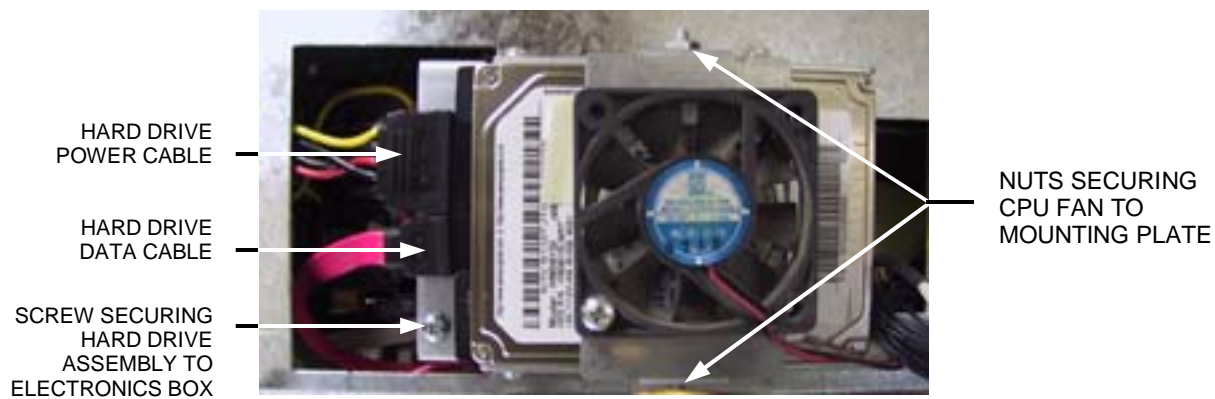

FIGURE 6 - SATA HARD DRIVE ASSEMBLY ON ELECTRONICS BOX
4. Disconnect the hard drive data and power cables from the hard drive (see Figure 6).
5. Remove the screw securing the hard drive mounting bracket to the electronics box (see Figure 6). Slide the hard drive assembly off the electronics box cover.
6. Separate the CPU fan mounting plate from the hard drive mounting bracket by removing the 2 nuts (see Figure 6).
1. Reattach the CPU fan mounting plate to the supplied hard drive assembly with the 2 existing nuts (see Figure 6).
2. Slide the hard drive assembly onto the electronics box cover and screw it into place to secure it (see Figure 6).
3. Attach the hard drive data and power cables (see Figure 6).